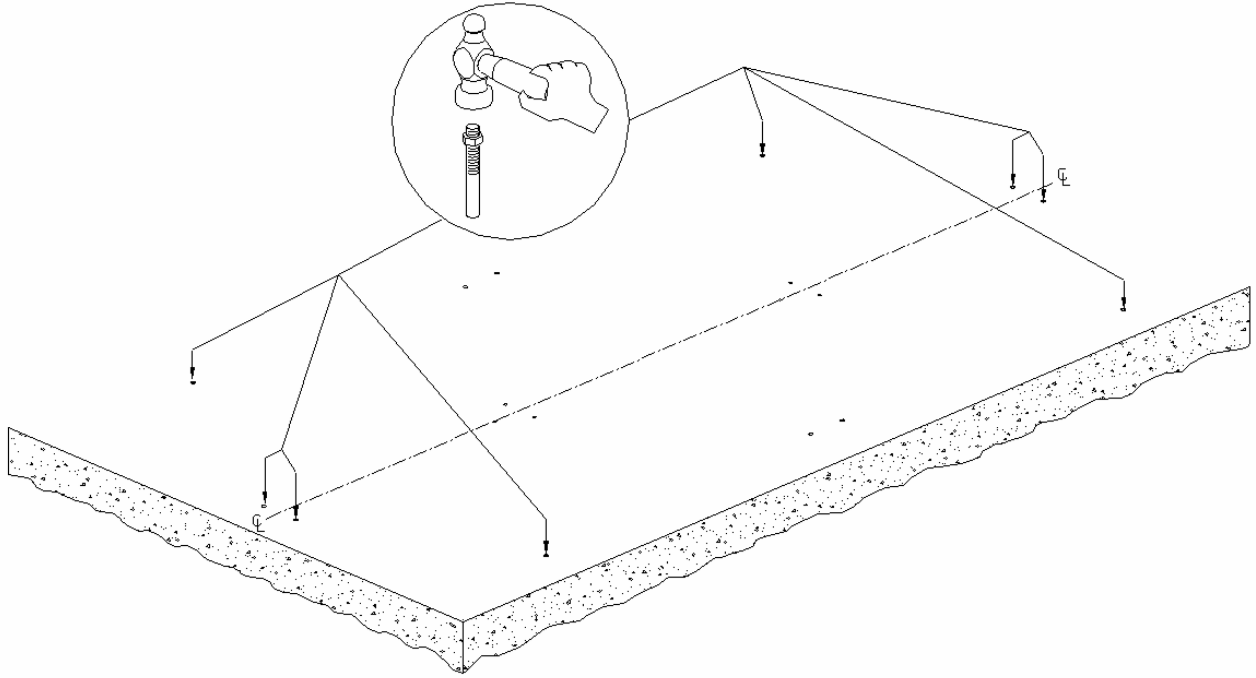

Figure 13
5. Locate anchor holes for shield assemblies. Four holes for right side shield assembly and four holes for left side shield assembly. Drive anchor studs into these holes. Eight studs required. See Figure 13. Allow $\frac{1}{2}$ " of anchor stud to remain above floor surface (allows $\frac{1}{8}$ " for wall thickness of shield assembly tubing plus $\frac{3}{8}$ " make-up for washer and nut).